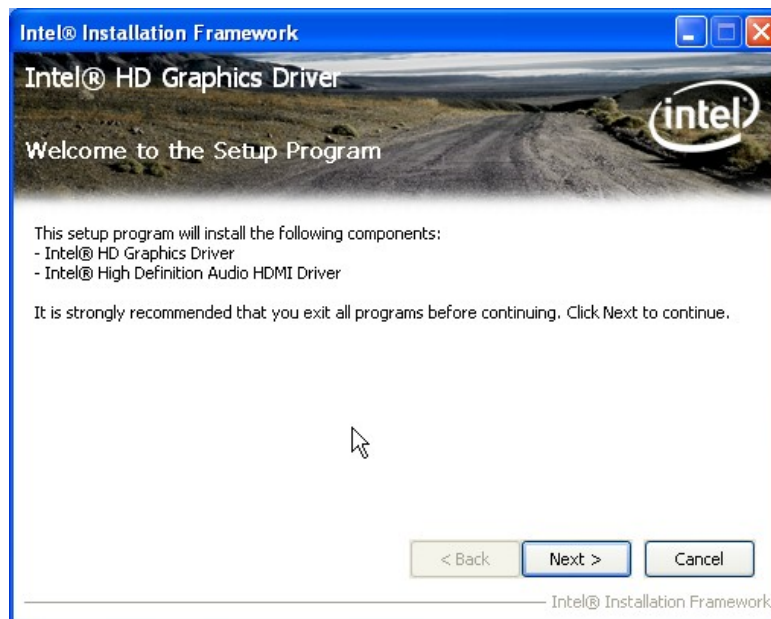

Figure 6-8: Graphics Driver Welcome Screen
- Step 4:** The **Welcome Screen** in **Figure 6-8** appears.